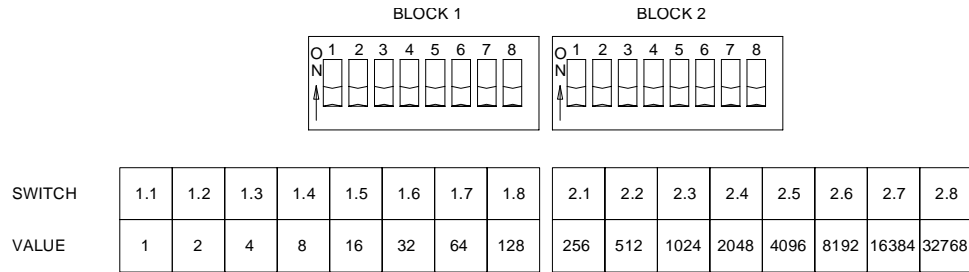

Figure 3.18: Address Switch Chart
- Referencing Figure 3.18: Address Switch Chart use the following formula.